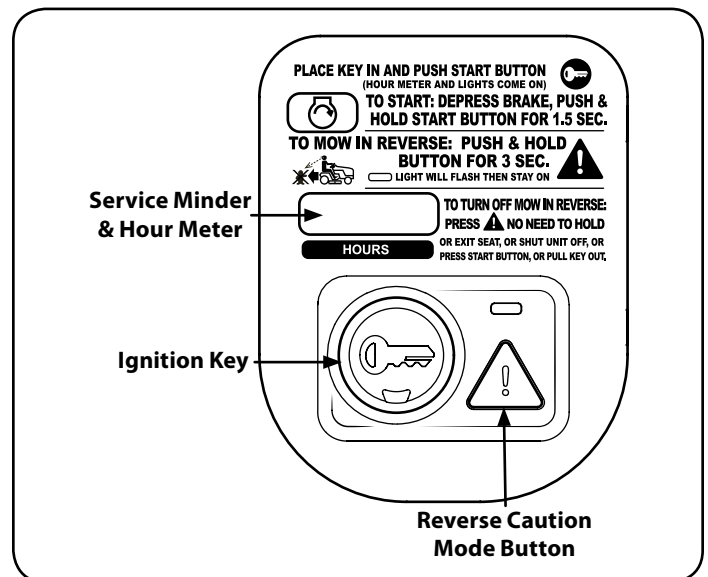

Figure 14
2. To activate the REVERSE CAUTION MODE push and hold the REVERSE CAUTION MODE  button for 3 seconds. See Figure 14.
3. Press the REVERSE CAUTION MODE  button (Orange, Triangular Button). The indicator light will flash then remain ON while activated. See Figure 14.